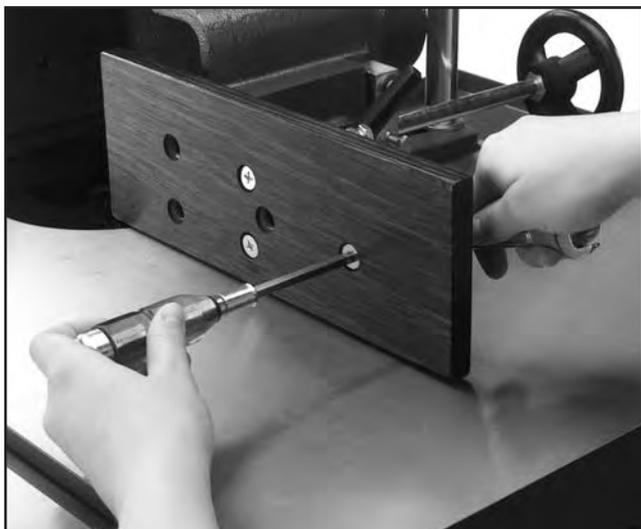

Figure 17. Attach wooden fence assembly.
1. Secure the wooden fence pieces (as shown in **Figure 17**) with the $\frac{5}{16}$ "- 18 x 1" Phillips screws, washers, and hex nuts provided.